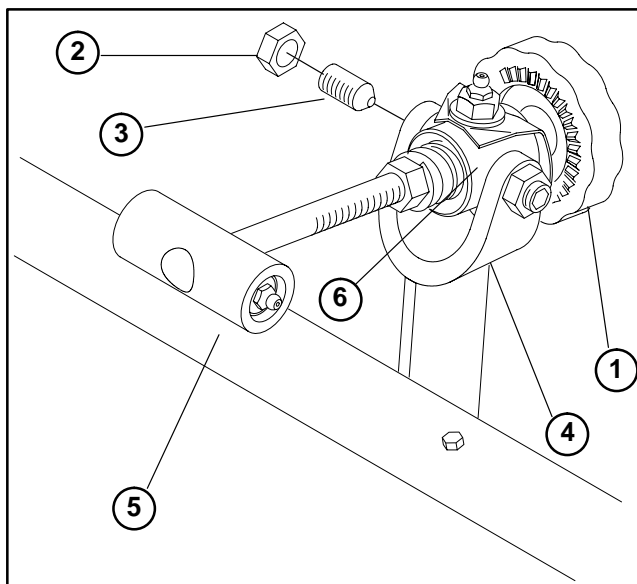
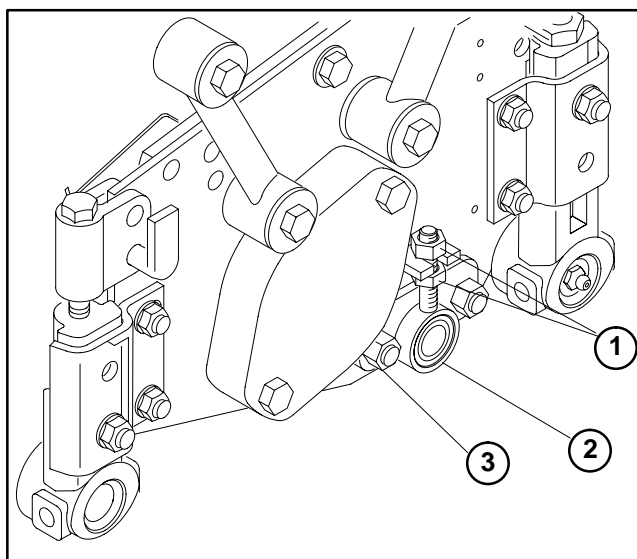
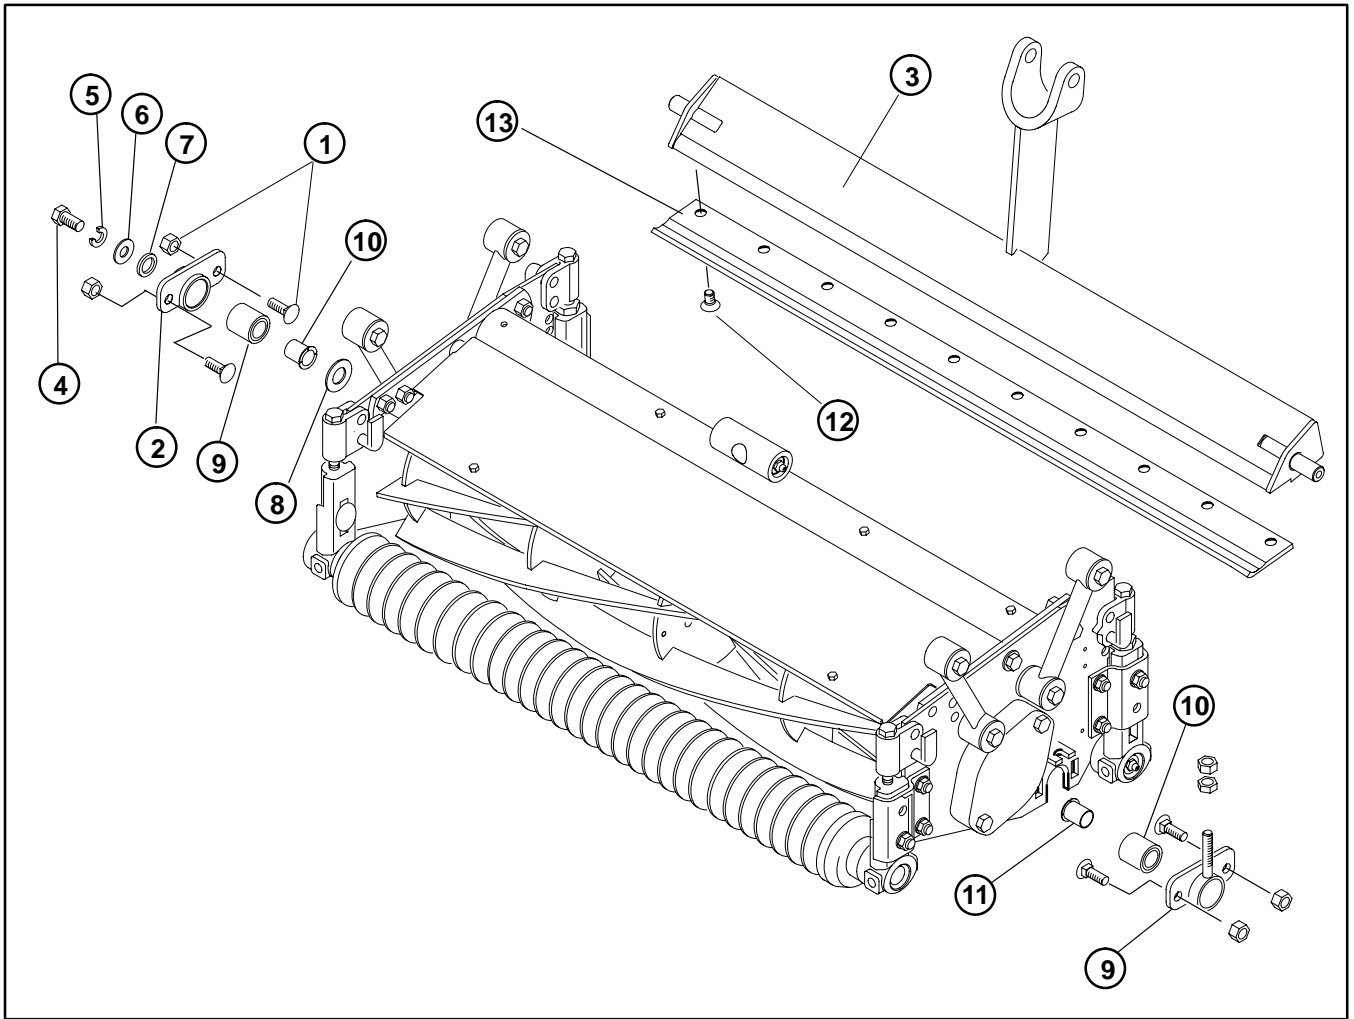

Figure 19
Figure 20
Figure 21
Bedbar Removal and Installation (Fig. 19 through Fig. 21)
1. Turn bedknife adjusting handle to loosen bedknife to reel contact (Fig. 19).
2. Remove both jam nuts and hex socket set screws from the bedbar yoke (Fig. 19)
3. Unscrew adjusting handle (left-hand threaded) until it is removed from the cutting unit (Fig. 19).
4. Loosen both adjusting lock nuts on the adjusting housing (Fig. 20).
5. Remove both carriage bolts and nuts from the adjusting housing (Fig. 20).
6. Remove both carriage bolts and nuts from the bedbar housing. Remove bedbar from the cutting unit (Fig. 21).
7. Remove capscrew, lock washer, flat washer, and spacer from the end of the bedbar (Fig. 21).
8. Remove adjusting housing and bedbar housing from the bed bar. Remove bedbar washer (Fig. 21).
1. Inspect flanged bushings and bushing assemblies for wear; replace if necessary (Fig. 21).
2. Clean and apply anti-seize lubricant to both bedbar pivots. Install bedbar washer on the bedbar (Fig. 21)
3. Install bedbar adjusting housing and bedbar housing on the bed bar. Reinstall spacer, flat washer, lock washer, and cap screw on the bedbar (Fig. 21).
5. Secure bedbar housing to the cutting unit with both carriage bolts and nuts (Fig. 21). Secure adjusting housing to the cutting unit with both carriage bolts and nuts (Fig. 20).
6. Tighten both adjusting lock nuts on the adjusting housing (Fig. 20).
7. Install adjusting handle on the cutting unit by screwing it in (Fig. 19).
8. Apply Never Seize to both hex socket set screws. Seat both hex socket set screws into the bedbar yoke and tapered seats of the pivot hub with a slight preload (Fig. 19).